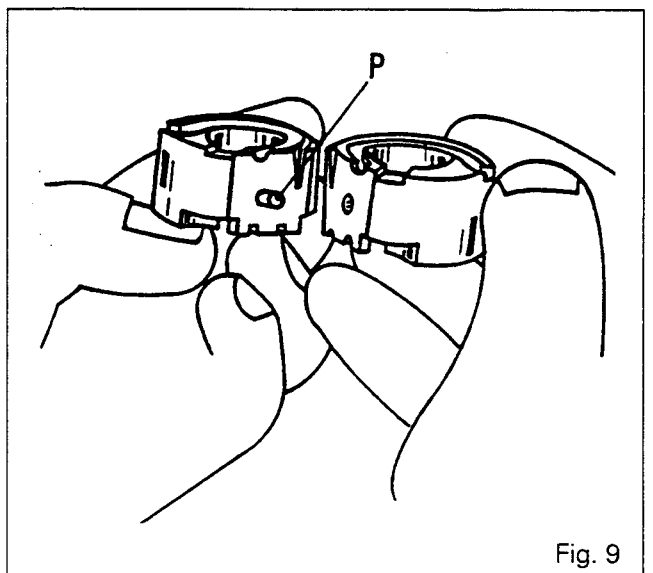

Fig. 9
55. Remove the screws (2) and (4).
56. Remove the cover plate (1).
57. Remove the composite seal (3) and seal (38). Separate the low-pressure stage (37) from the intermediate plate (14).
58. Remove the stage and the bearing/pinions assembly (7).
59. Remove the pinions (8) and (9) from the bearing assemblies (5) and (11).
**Note :** *Keep the bearing assemblies paired. Each bearing is linked by a dowel «P» (Fig. 9).*
60. Remove the composite seal (12) and seal (13).
61. Remove the intermediate plate (14), the driver (15) and the seal (16).
62. Untighten and remove the screws (36).
63. Remove the intermediate plate (35).
64. Remove the composite seal (33) and seal (34).
65. Separate the high-pressure stage (32) from the flange (21).
66. Remove the bearing/pinions assembly (25).
67. Remove the pinions (28) and (29) from the bearing assemblies (27) and (31).
68. Remove the composite seal (23).